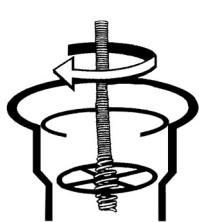

Figure 1
- Thread through crosshairs (Figure 1).